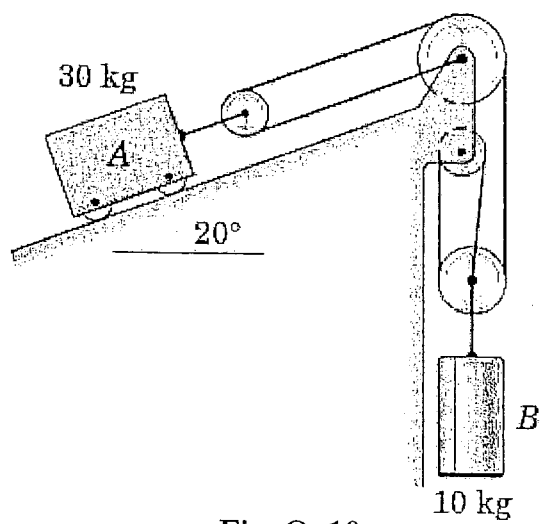

Fig. Q. 10
10. Cylinder B is connected with the block A as shown in **Fig. Q. 10**. Neglecting all friction and mass of the pulleys, determine the accelerations of bodies A and B when release from rest. [8]